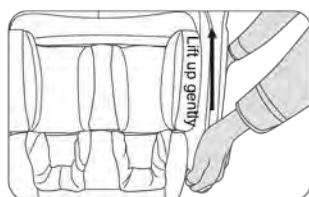

Figure 10
- Gently lift up the front-end of the armrest and pull out the buckle. (Figure 10)